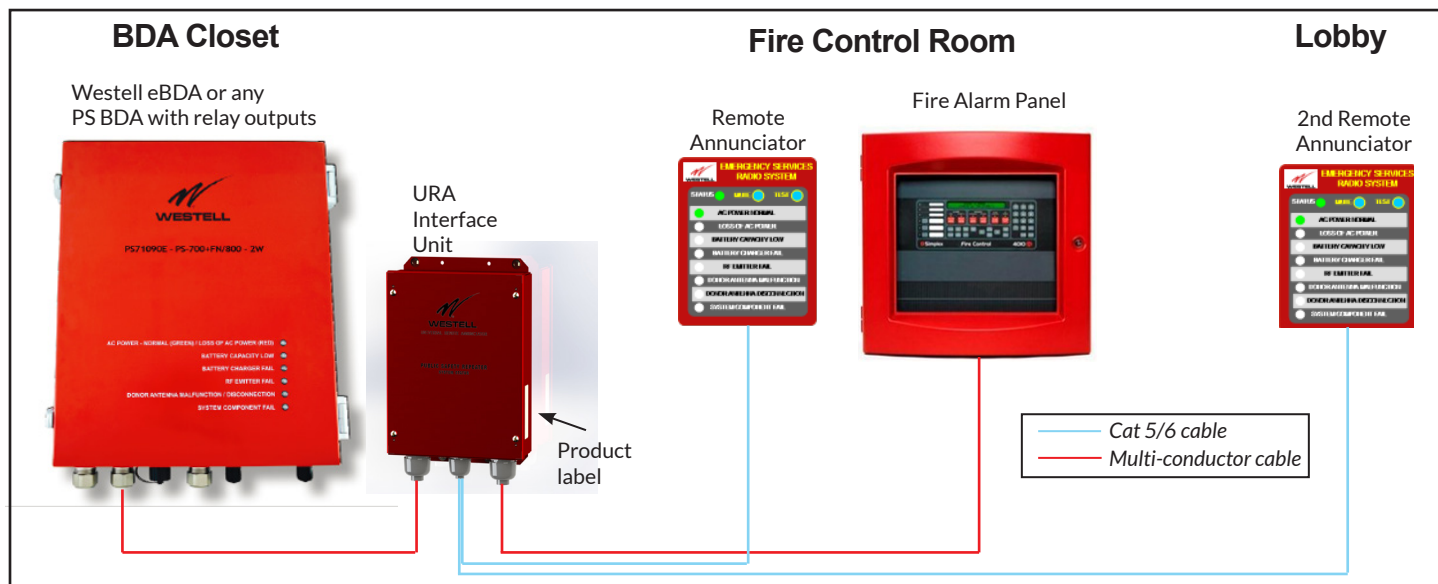

Figure 1. Overview of CS19-URA-003 Universal Remote Annunicator installation
Figure 1 below depicts a typical URA installation.
- B. Route the cable through flexible conduit and into the 3/4" port on the right side of the bottom of the URA Interface Unit. See Figure 1.